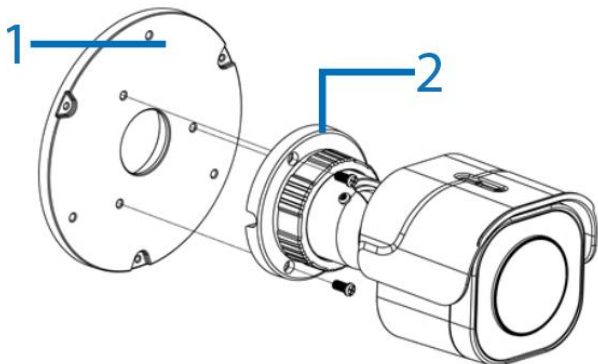

Figure 9
- Run the camera cable through the hole on the adaptor plate (1) (Figure 9).
- Hold the camera base (2) (Figure 9) up to the adaptor plate and align the three holes on the camera base with the three holes on the adaptor plate.